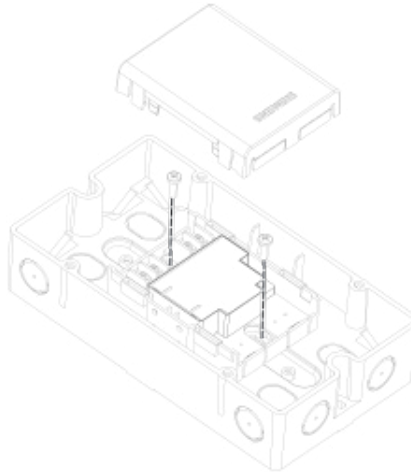

Fig. 4.8.2
5. Connect the cables to the terminal in accordance with the connection diagram (Fig. 4.8.2). The terminal equipment of FR18-BUS is required to be parallel connected with a resistance of 120Ω , which can be achieved through internal jumper of FT1810.